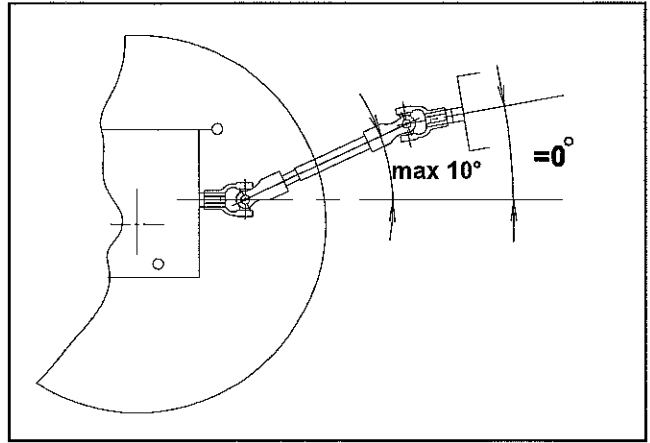

Fig.2
**Fig. 2** The PTO shaft of the tractor and the PIC (power intake) must be as parallel as possible, i.e. the angle between them must be as close to 0° as possible. The frame is adjusted so the PTO shaft in working position is maximum 10° above or below vertical corresponding to the PIC (the input shaft of the gearbox) being maximum 100 mm above or below the PTO shaft of the tractor.